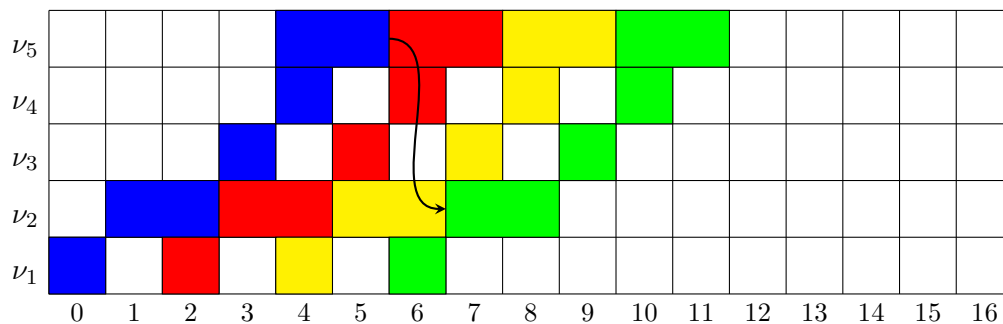

Figure 15: Scheduling grid for Task 3.4 (b)
- (b) (4 Points) Function ν_2 uses the result of ν_5 from the previous iteration. Suppose that any arbitrary number of tokens can be inserted on this edge to reduce P using functional pipelining. Assuming unlimited resources, and that the same operation of different iterations cannot be executed in parallel or overlap, how many tokens should be added on the edge $\nu_5 \rightarrow \nu_2$ to achieve the minimal iteration interval? To justify your answer, draw the pipelined schedule for **four** iterations in Figure 15. Determine the latency L of this schedule.
Two more tokens should be added. $P = 2$ and $L = 6$. See Figure 15 for the schedule.